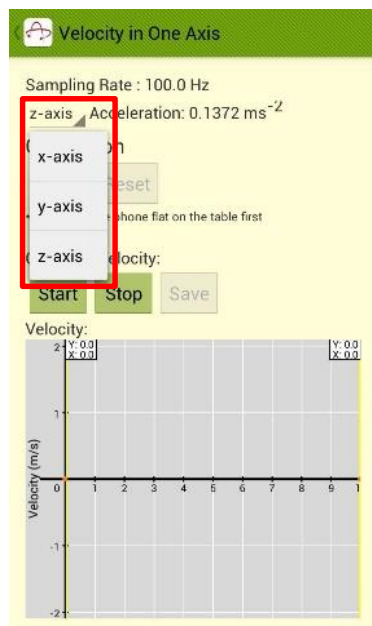

Fig 5.2
- Press the “Axis Selection” tab on the left of the instantaneous Acceleration reading (up to 4 decimal places) to choose a desired axis (Fig 5.2). x-axis is chosen as an example. Fig 3.3 and 3.4 give reference for the axes but they may vary in different devices. You are advised to test the axes of your device in advance.